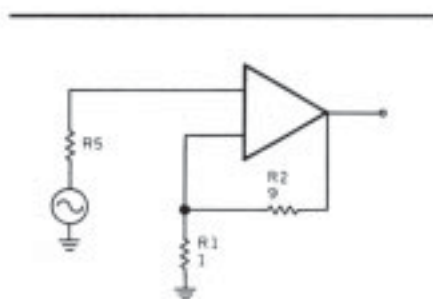

FIGURE 13: For low noise, $R2||R1$ should be lower than R_L .
2. Feedback network. Because the feedback network also contributes to the total input noise, you must reduce it as much as possible. Ideally, the value of the two resistors in parallel should be lower than the lowest impedance pickup you are likely to use. Since the lowest impedance pickup is around 2Ω , it should ideally be 1Ω or so, as shown in Fig. 13. With a closed-loop gain of 10x or 20dB, the amplifier output must drive a 10Ω load, which is almost equivalent to a loudspeaker load. Clearly, you will run into problems driving such a load if you need, say, 10V RMS at the output. Fortunately, this is not necessary. Most normal RIAA inputs have an input overload capability of only a few hundred mV, which is what the MC-preamp must deliver. (You may